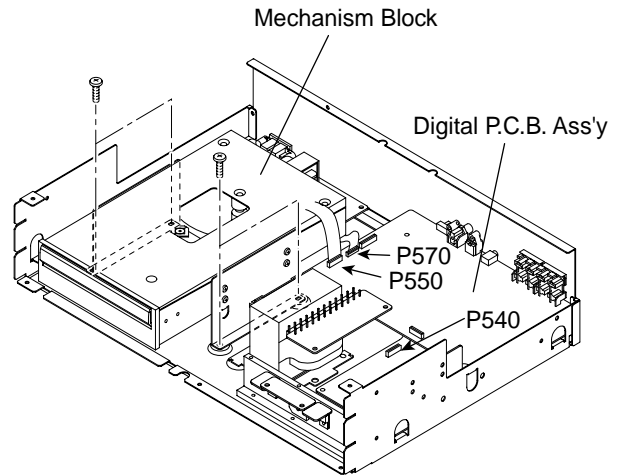

Fig.2-4
2.3 Mechanism Block (Refer to Fig. 2-4)